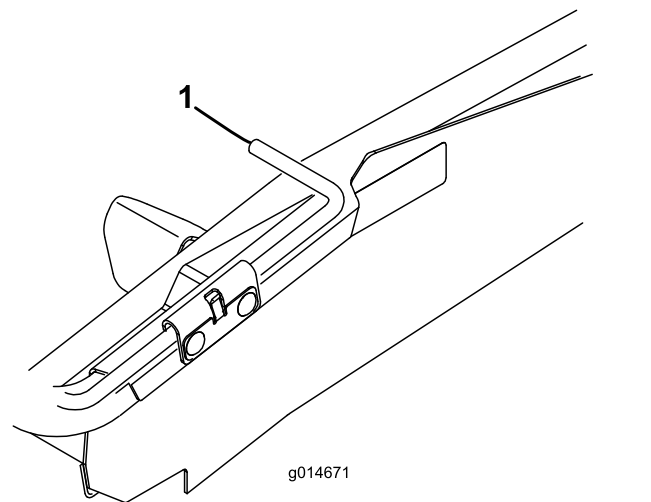
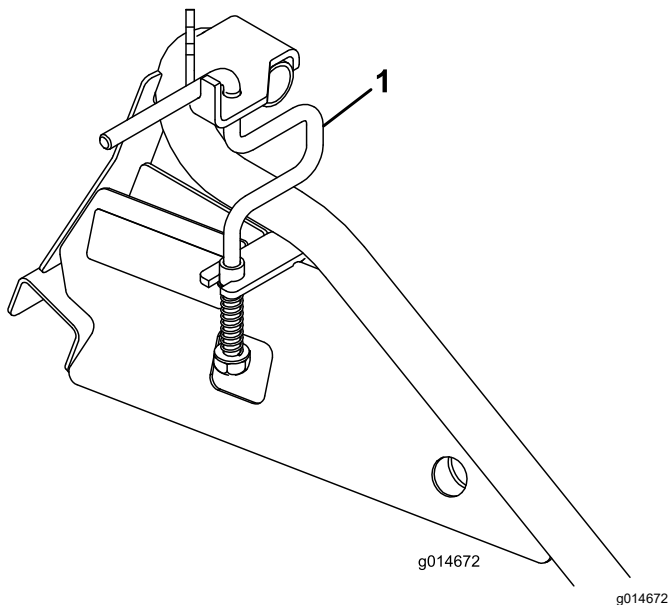

Figure 13
Figure 14
2. On flat ramps, pivot the wheel rods upward (Figure 13) and on rail ramps, rotate the wheel rods parallel (open) to the ramp (Figure 14).
- On flat ramps, rotate the wheel rods downward over the greensmower transport wheels (Figure 13).
- On rail ramps, lift the wheel rod and rotate it behind the greensmower transport wheels (Figure 14).